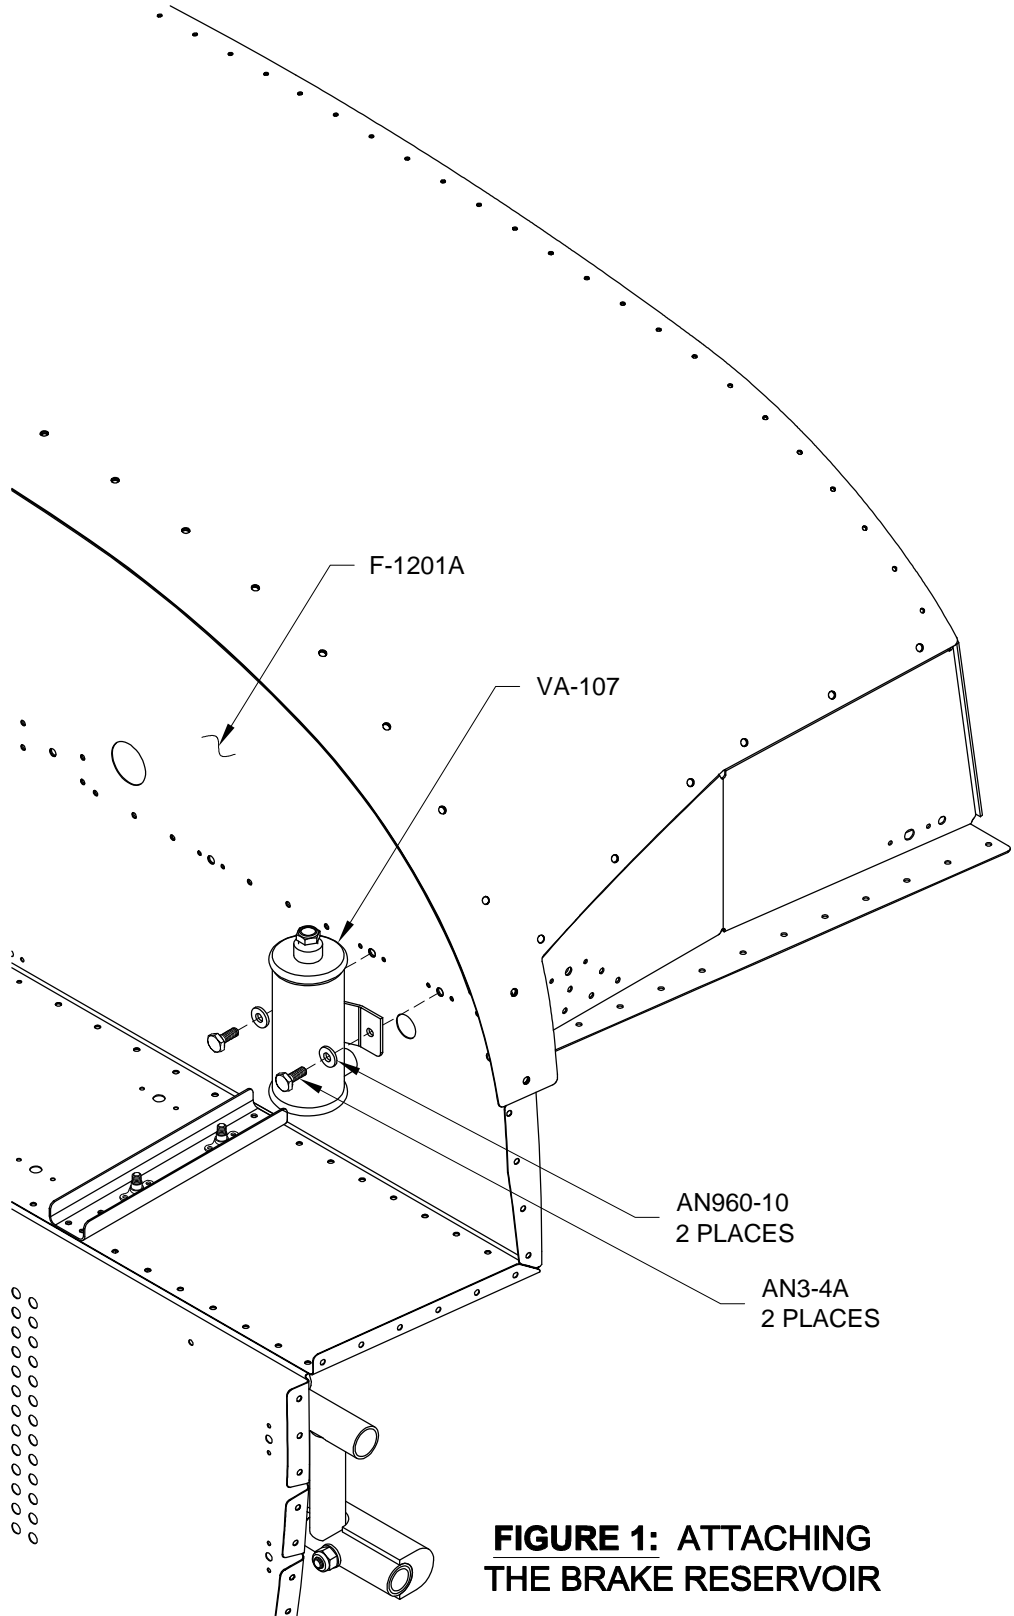

FIGURE 1: ATTACHING THE BRAKE RESERVOIR
Step 1: Bolt the VA-107 Brake Reservoir to the F-1201A Firewall Upper using the hardware called out in Figure 1.